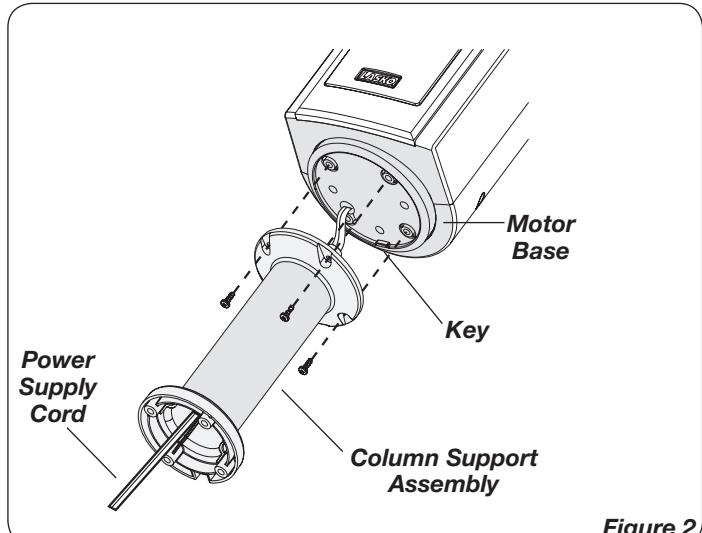

Figure 2
- Attach the Column Support Assembly to the Motor Base with (4) M5 X 13mm Screws. Make certain to align the Key on the Motor Base with the Locating Notch on the Column Support Assembly. (Figure 2)